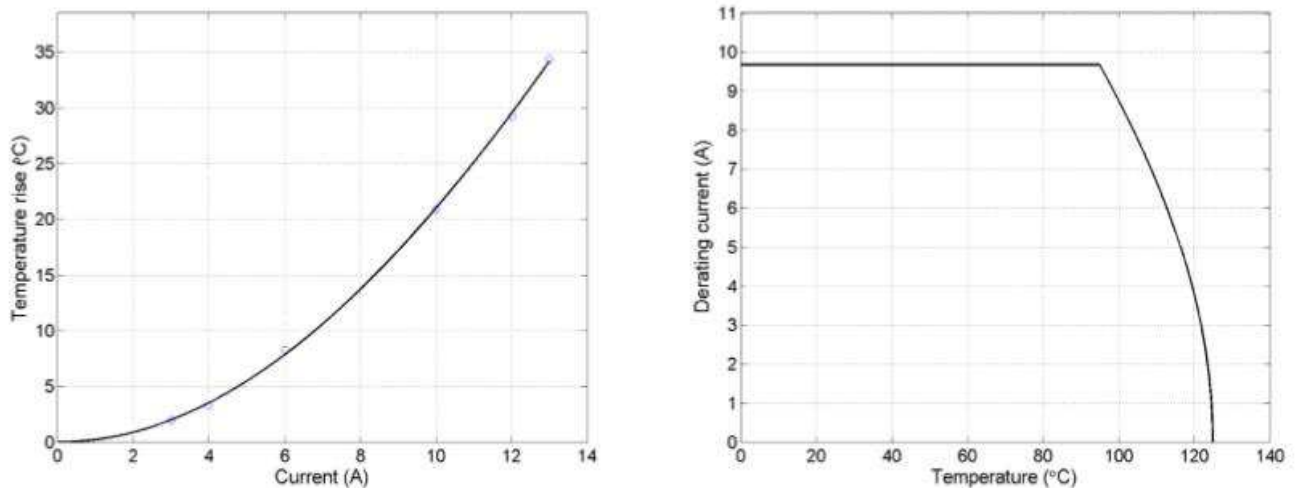

Figure 5- typical derating curve of 2238171-3 AWG22#
2.5 Refer to figure 5 for the curve of 2238171-3 (Faston) with AWG22#.